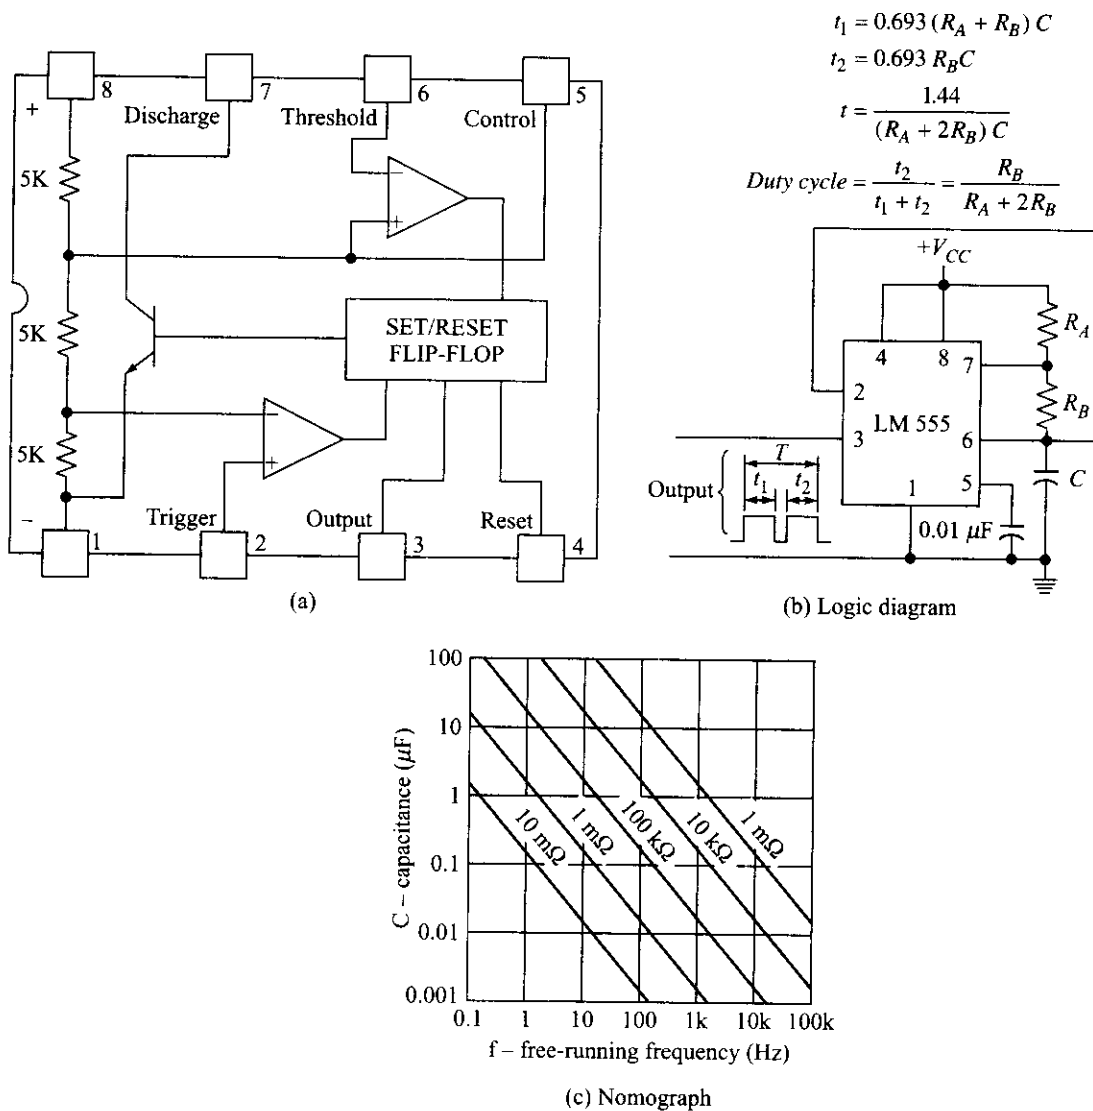

Fig. 7.13 (a) Internal diagram of LM 555, (b) LM 555 in astable mode, (c) Nomograph
The 555 timer is a TTL-compatible integrated circuit (IC) that can be used as an oscillator to provide a clock waveform. It is basically a switching circuit that has two distinct output levels. With the proper external components connected, neither of the output levels is stable. As a result, the circuit continuously switches back and forth between these two unstable states. In other words, the circuit oscillates and the output is a periodic, rectangular waveform. Since neither output state is stable, this circuit is said to be *astable* and is often referred to as a *free-running multivibrator* or *astable multivibrator*. The frequency of oscillation as well as the duty cycle are accurately controlled by two external resistors and a single timing capacitor. The internal circuit diagram of LM 555 timer is shown in Fig. 7.13(a). Note that the two comparators inside have two different reference voltages $V_{CC}/3$ and $2V_{CC}/3$ for comparisons, if $V_{CC}/3$ is the voltage between pin 1 and 8. Also note how they are connected to + and – input of the comparator. The Set Reset flip-flop sets or resets the output based on these comparator outputs in its usual operation. If required, it can be separately reset by asserting pin 4. More about this flip-flop will be discussed in next chapter. In this section, we show how 555 can be connected to get an astable multivibrator and in next section, we will discuss how it can be used in monostable mode.
The logic symbol for an LM555 timer connected as an oscillator is shown in Fig. 7.13. The timing capacitor C is charged toward $+V_{CC}$ through resistors R_A and R_B . The charging time t_1 is given as
This is the time during which the output is high as shown in Fig. 7.13.
This is the time during which the output is low, as shown in Fig. 7.13.
Determine the frequency of oscillation for the 555 timer in Fig. 7.13, given $R_A = R_B = 1 \text{ k}\Omega$ and $C = 1000 \text{ pF}$.
- (a) Given $R_B = 750 \Omega$, determine values for R_A and C in Fig. 7.13 to provide a 1.0-MHz clock that has a duty cycle of 25 percent.
- (b) What change in the circuit shown in Fig. 7.13 gives duty cycle approximately 50%?